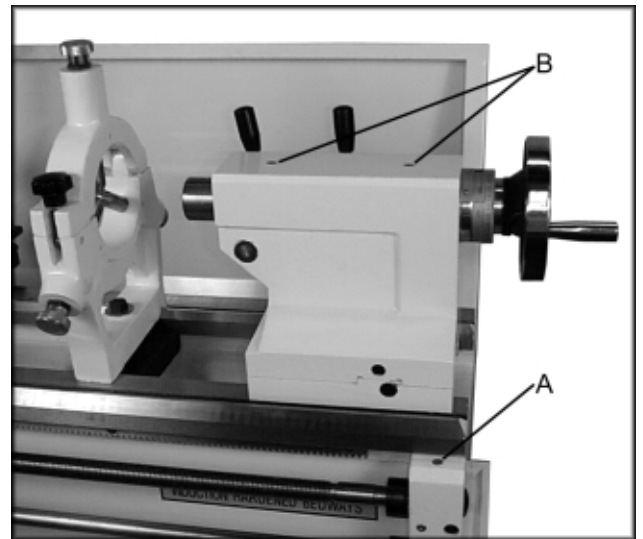

Fig. 7
4. **Leadscrew Feed Rod** - lubricate ball oiler (A, Fig. 7) on leadscrew/feed rod bracket with Mobil DTE® Oil Heavy Medium once daily.
5. **Tailstock** - lubricate two ball oilers (B, Fig. 7) on tailstock with Mobil DTE® Oil Heavy Medium once daily.